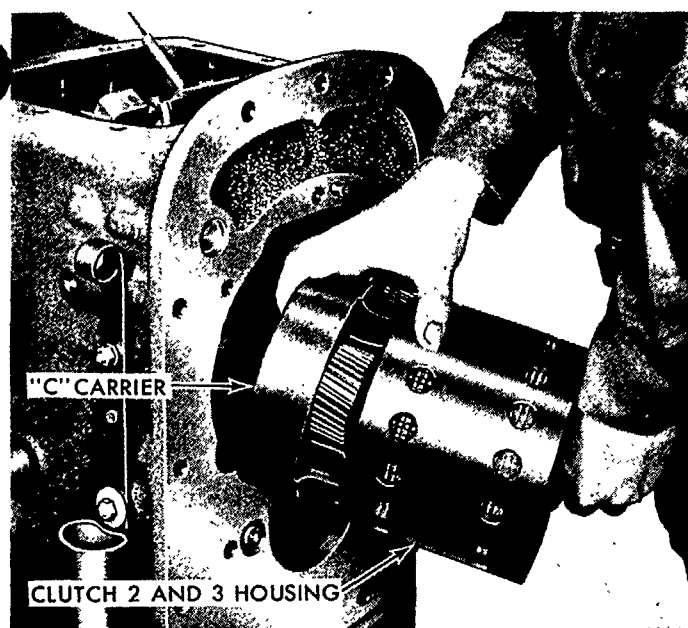

Figure 47
7. Loosen the No. 3 band adjusting screw and remove the clutch 2 and 3 housing, "C" carrier, and the mainshaft in one assembly, as shown in Figure 47.